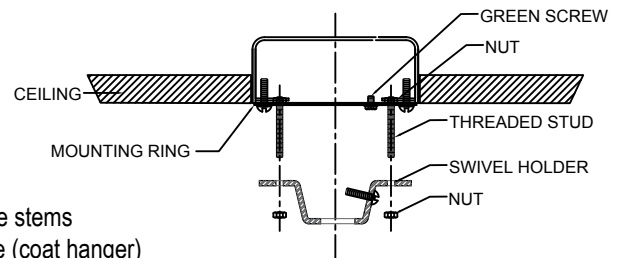

FIGURE-02
2. Attach the swivel holder to the threaded stud on the mounting ring and secure with nut. (See Figure-02)